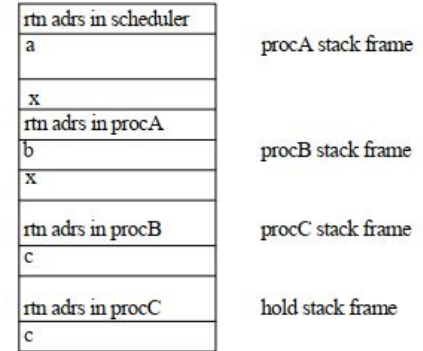

Fig. 9.2 Runtime stack in threaded simulation
- ❖ Figure 9.2 illustrates a **sequence of procedures** and the **stack of frames** present during the first call to hold. This call suspends the thread, and when the thread resumes execution, it needs access to all the **data stored** on the stack at the **time of suspension**.